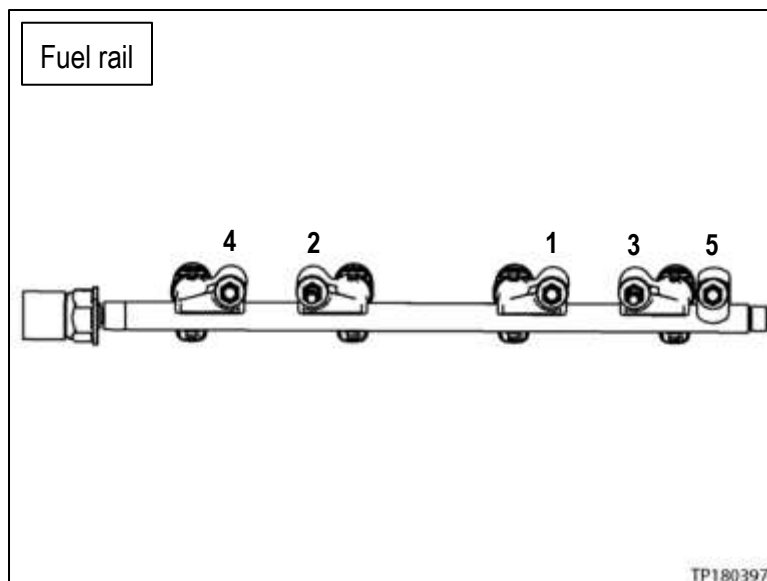

Figure 51
- c. Install, and then torque the nuts and bolts in two steps and in the sequence shown in Figure 51.